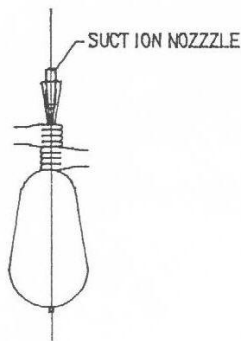

FIG 5
2. GRASP FILLED BAG AS ABOVE, INSERT NOZZLE, AND STRIP AIR. SEE FIG 5.